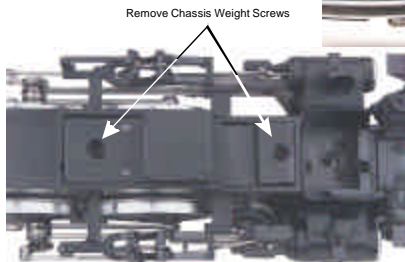

Figure 15: Chassis Weight Mounting Screws
4. Turn the chassis right side up and remove the two chassis weight mounting screws as seen in Figure 15.